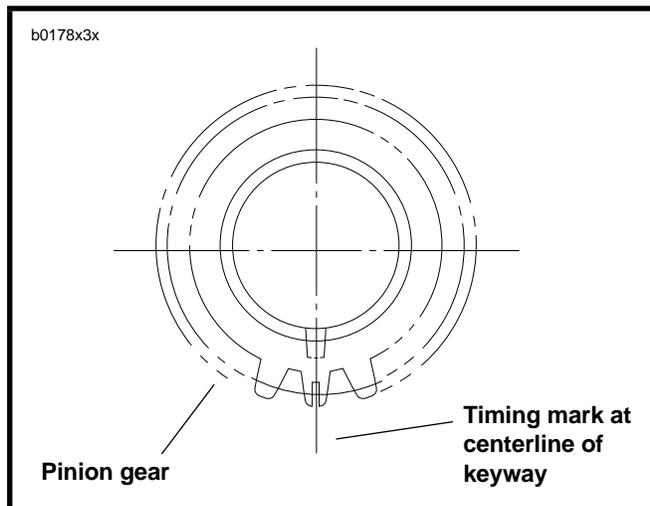
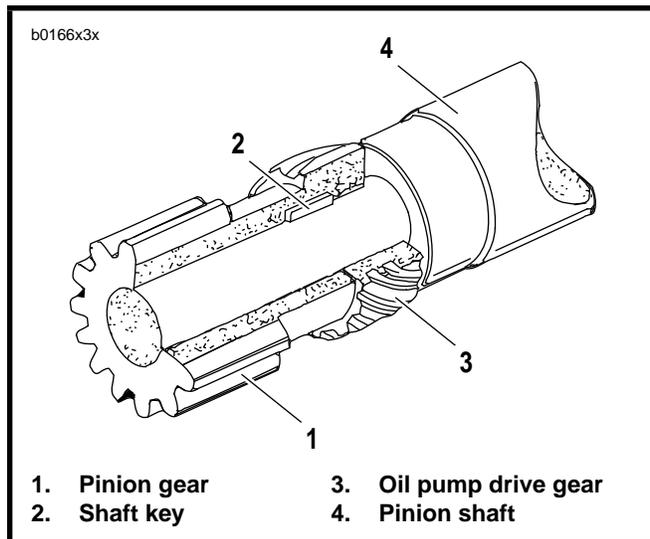

Figure 3-61. Pinion Gear Timing Mark and Keyway
Figure 3-62. Oil Pump Drive Gear and Pinion Gear Installed on Pinion Shaft
1. See Figure 3-51. Install oil pump drive gear (12) and pinion gear (5) to pinion shaft. Note that timing mark on pinion gear tooth is aligned with keyway in ID of pinion gear, as shown in Figure 3-61. See Figure 3-62. The timing mark will allow you to easily position pinion gear (1) over shaft key (2) and against oil pump drive gear (3) on pinion shaft (4).